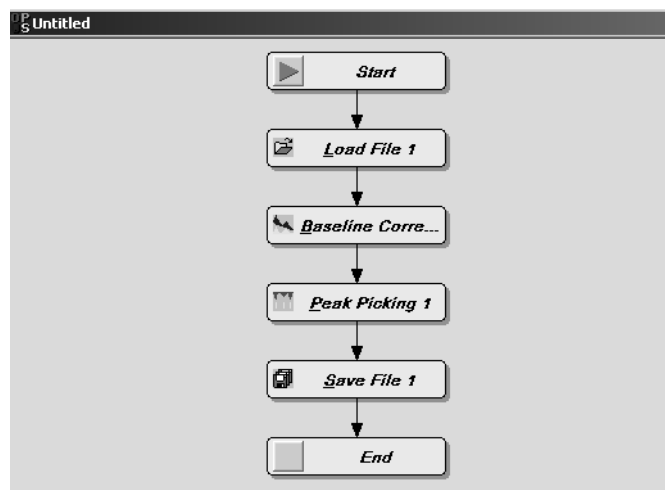

Figure 302: Procedure created
- **Arrange:** arranges the procedure as exemplified in figure 302.